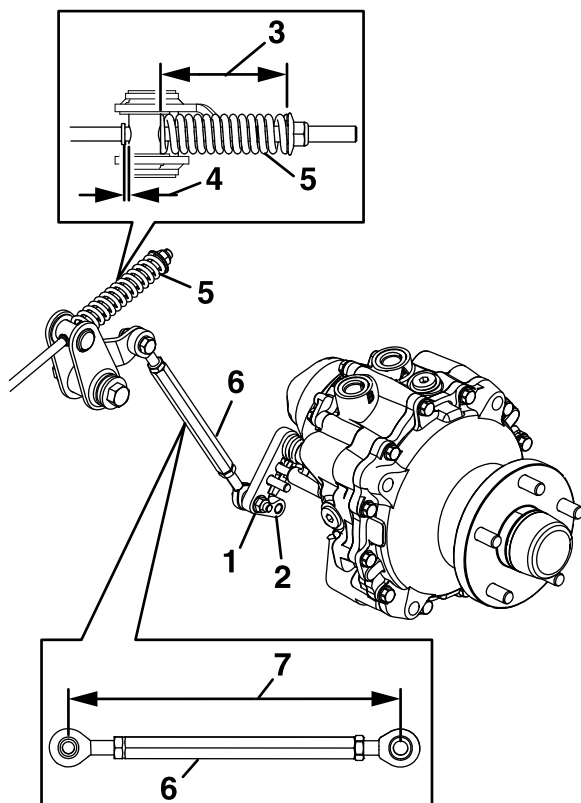

Figure 58
7. Measure the length of the link assembly (Figure 58).
8. Measure the length of the spring (Figure 58).